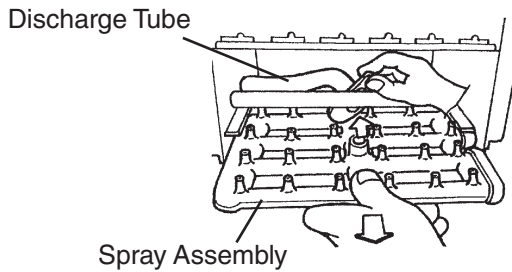

**Fig. 40**
- 5) Spread out the tabs to unlock the water tank, then slide it out. See Fig. 40.